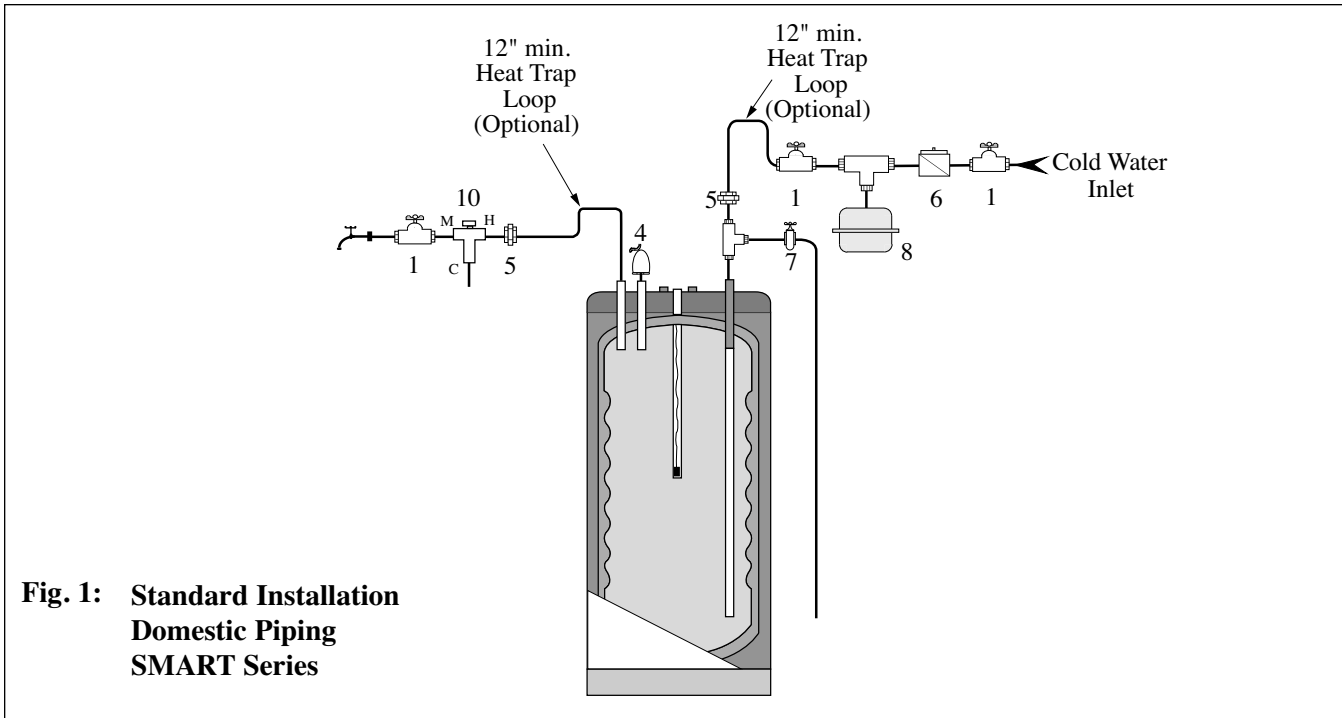

Fig. 1: Standard Installation Domestic Piping SMART Series
- Install a tee connection at the domestic cold water inlet (Fig. 1 and 2 page 8 and Fig. 3 on page 9).
- Each tank should be piped with a drain as shown in Fig. 1.